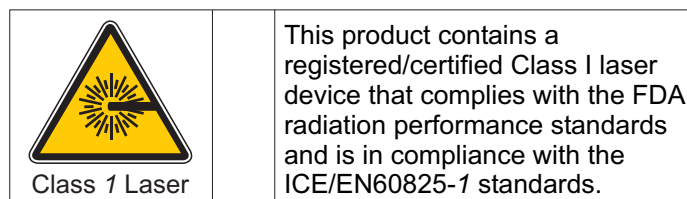

Figure 5. Class 1 laser label
3. Class 1 laser label. See Figure 5.